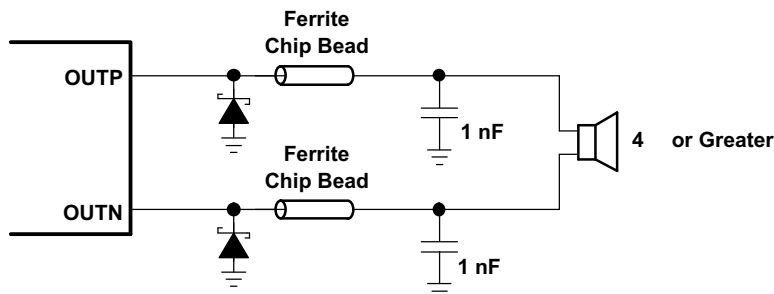
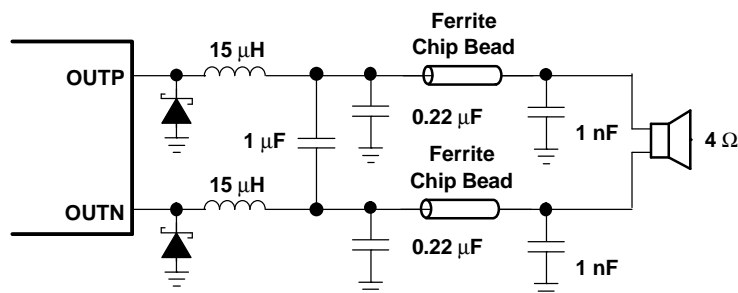
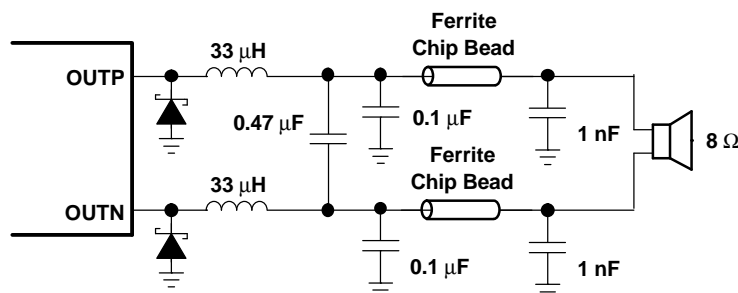

Figure 24. Typical Ferrite Chip Bead Filter (Chip bead example: Fair-Rite 2512067007Y3)
Figure 25. Typical LC Output Filter for 4-Ω Speaker, Cutoff Frequency of 41 kHz
Figure 26. Typical LC Output Filter for 8-Ω Speaker, Cutoff Frequency of 41 kHz
A ferrite bead filter (shown in Figure 24) should be used in order to pass FCC and/or CE radiated emissions specifications and if a frequency sensitive circuit operating higher than 1 MHz is nearby. The ferrite filter reduces EMI around 1 MHz and higher (FCC and CE only test radiated emissions greater than 30 MHz). When selecting a ferrite bead, choose one with high impedance at high frequencies, but very low impedance at low frequencies.
Use an additional LC output filter if there are low frequency (<1 MHz) EMI sensitive circuits and/or there are long wires (greater than 11 inches) from the amplifier to the speaker, as shown in Figure 25 and Figure 26.
- Output filter — The ferrite filter (Figure 24) should be placed as close to the output terminals (pins 19, 20, 25, and 26) as possible for the best EMI performance. The LC filter (Figure 25 and Figure 26) should be placed closest to the output and followed by a ferrite-bead filter. The capacitors used in both the ferrite and LC filters should be grounded to power ground.